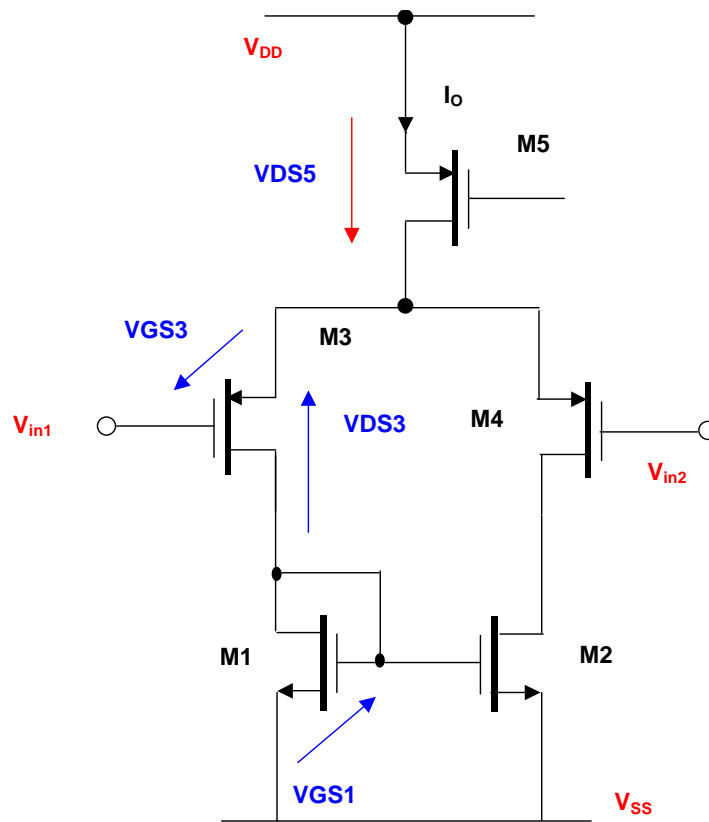

Figure 3 Showing PMOS Differential amplifier and the voltages effecting the maximum and minimum output voltages.
(2) Output Load capacitor C_2 – Figure 3
(3) Tail capacitor C_3 – Figure 3
(4) Load capacitor C_L – Figure 3
Figure 3 First stage output parasitic capacitances that make up the equivalent capacitor C_2 . In most cases the bulk will be connected to VSS or VDD, which will be AC ground, so in fact these capacitors will all add together. C_3 is the tail parasitic capacitance but has little impact as it only effects common mode signals. The Output capacitance is dominated by C_{LOAD} , but also has contributions from M7 & M8.